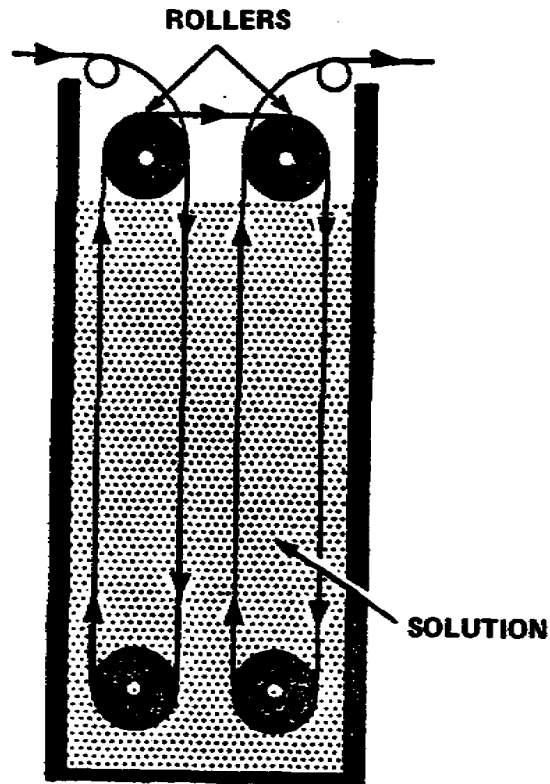

Figure 1-8. Schematic of a typical immersion processing tank
(1) There are numerous types of agitation systems used in print processors but the method most used and perhaps the oldest is the immersion method of agitation (fig 1-8). In this system, the paper travels through the various solution tanks and receives agitation solely from its movement through the tanks.
(2) The immersion system is the least expensive and the easiest agitation method to maintain.